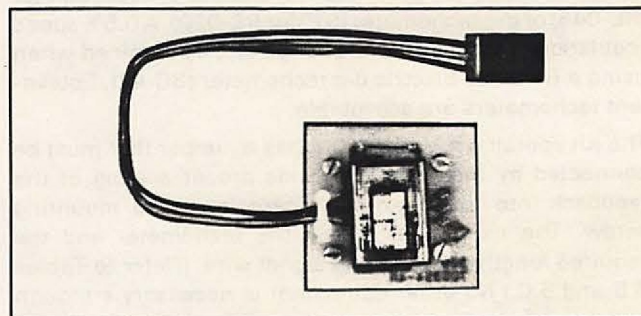

Figure 5.7 — Automatic Reversing Kit
**5.4 Automatic Reversing** — The optional Automatic Reversing Kit provides an **automatic** reverse-direction capability to the FlexPak Plus. Functionally, the Kit allows the controller to sequence off, and then immediately sequence on again, thereby providing a fast, automatic change of direction. This response may be caused by either an external switching signal or manually with a FORWARD/REVERSE selector switch. (Refer to Figure 5.7.)